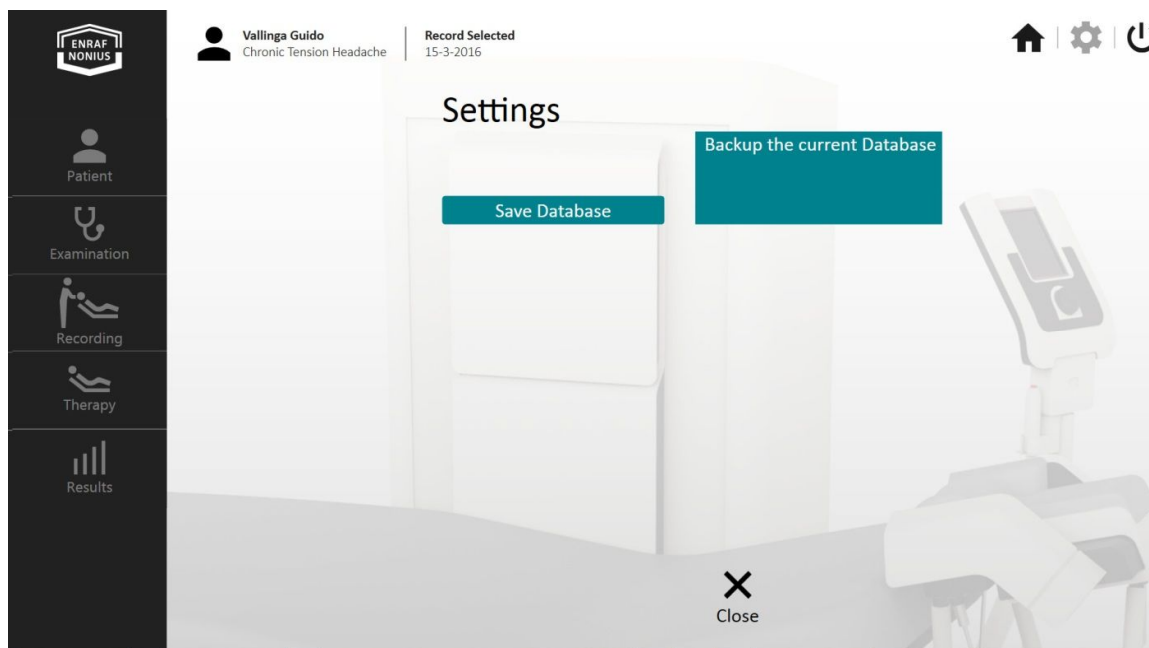

fig. 99
- Select “Save Database” in the Database Manager and click “Save Database or Backup the Current Database” to save or backup.(fig 99)